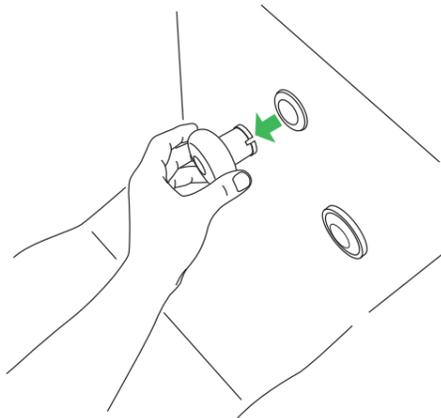

Figure 2
4. **For treatment hose only:** pull out the Hydromassage system nozzle and clean it separately. See Figure 2.